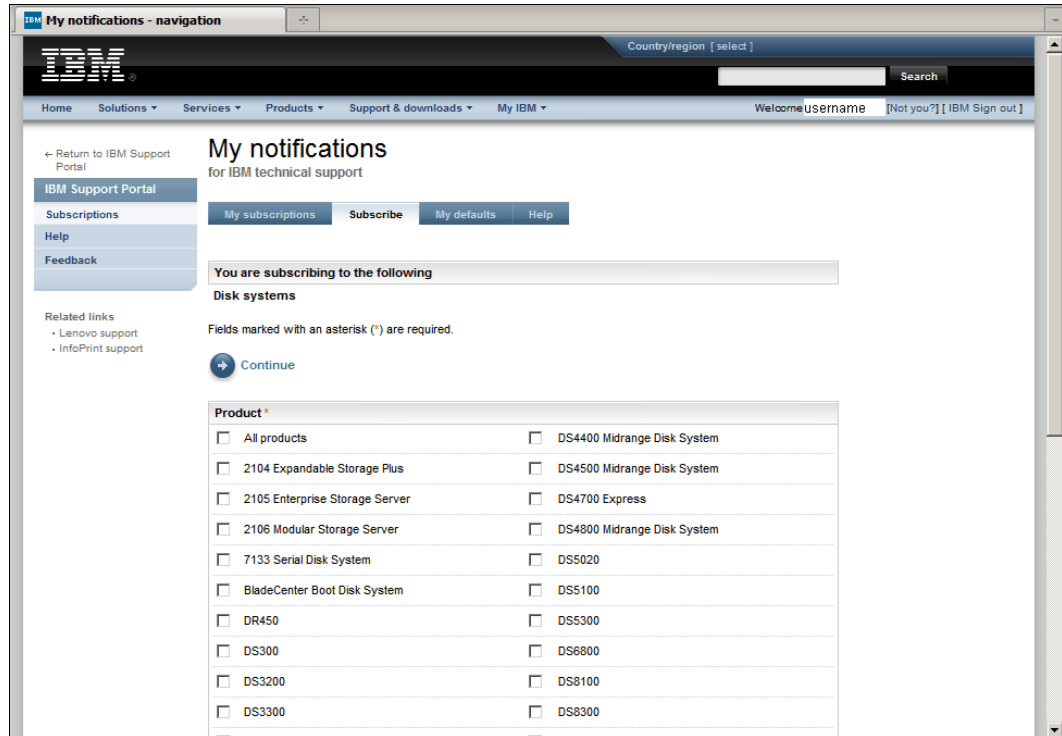

Figure A-19 My notifications - Disk systems
- Click Disk Systems and you will be presented with a list of the IBM Disk Storage Systems as shown in Figure A-19.